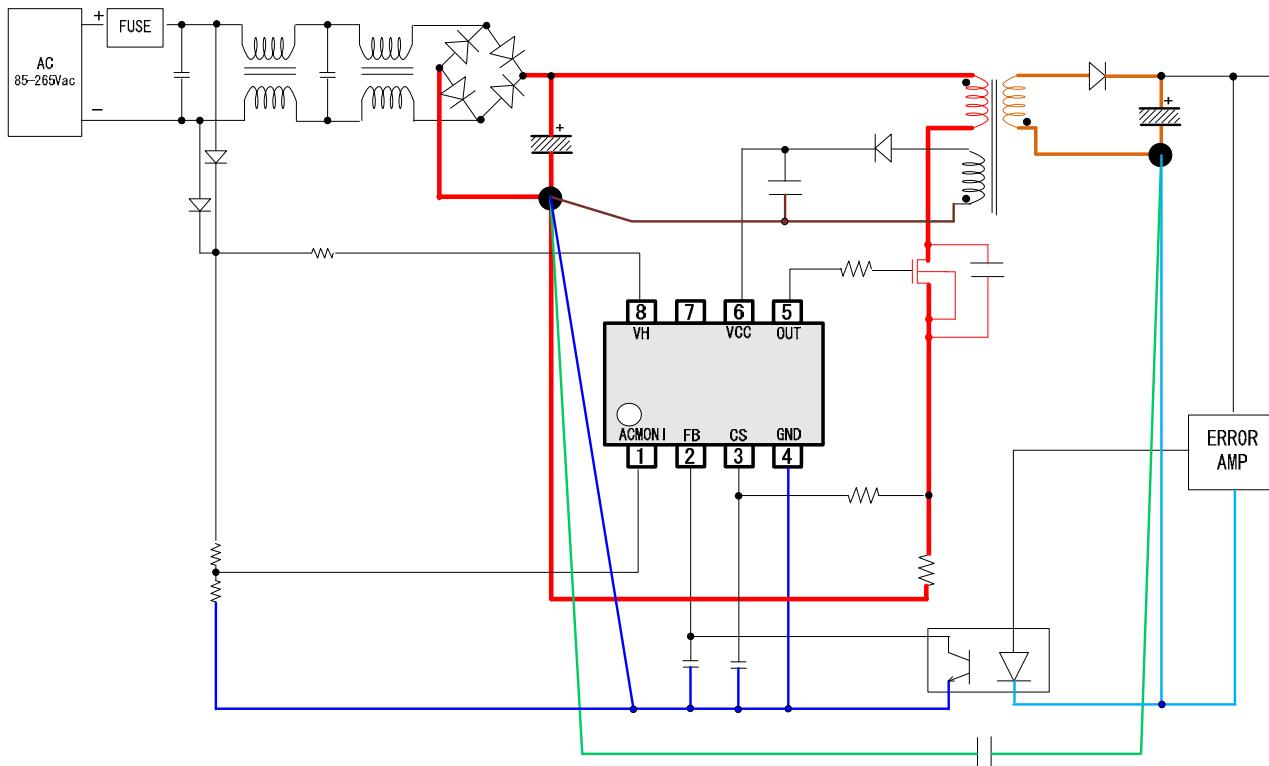

Figure 29. Board Layout Pattern
- ① The red lines shown in Figure 29 are large current pathways. In the layout, these should be as short as possible since they can cause ringing, dissipation, etc.
- ② The orange lines in the secondary side of Figure 29 should also be made short and thick like the red lines and should be made with small loops in this layout.
- ③ Be sure to implement grounding for the red lines, brown lines, blue lines, and green lines.
- ④ The green lines are pathways for surges on the secondary side to escape to the primary side, and since a large current may flow instantaneously, they should be laid out independently of the red lines and blue lines.
- ⑤ The blue lines are GND lines for IC control. They do not have any large current flow, but they are susceptible to noise effects, so they should be laid out independently of the red lines, green lines, and brown lines.
- ⑥ The brown lines are current pathways for the VCC pin. A current flows on these lines during switching, so they should also be laid out independently.
- ⑦ Do not route any IC control lines directly under the transformer, since they may be affected by magnetic flux.